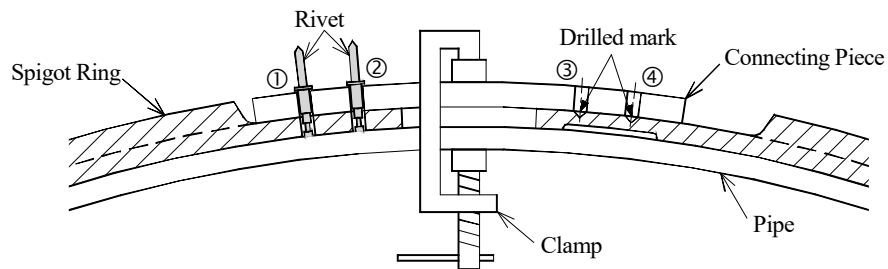
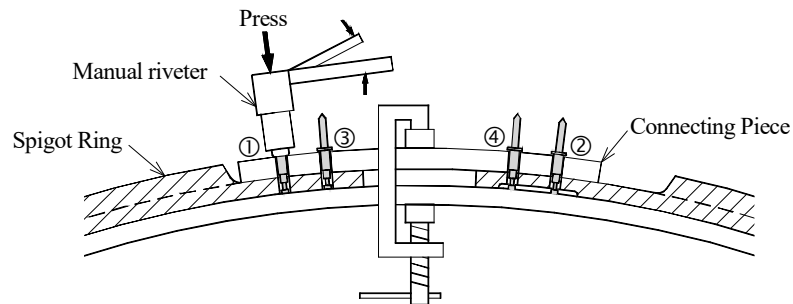

Figure-31 Assembly of Spigot Ring
Figure-32 Riveting of Spigot Ring and Connecting Piece
- (4) Confirm by hand that the Spigot Ring is firm and rigid in the groove. Undo the process if the Spigot Ring is loose.
- (5) Attach the Connecting Piece to the Spigot Ring by inserting two rivets (five rivets are included as a set) into the holes of the Spigot Ring and the Connecting Piece (①, ② of Figure-31). Retain the Spigot Ring and Connecting Piece to the groove with a clamp. Drill two holes into the Spigot Ring through the Connecting Piece (③, ④ of Figure-31). A 3/16" (4.1-4.2 mm) diameter drill bit shall be used. Do not over-drill the Spigot Ring. This may damage the groove.
- (6) Insert the other two rivets into the holes of the Spigot Ring and Connecting Piece (③, ④ of Figure-31). Start riveting in the order of Figure-32 (①, ②, ③ and ④). Ensure the rivet head is flat and flush with the Connecting Piece. Undo the riveting process if the rivet head is protruded from the Connecting Piece.